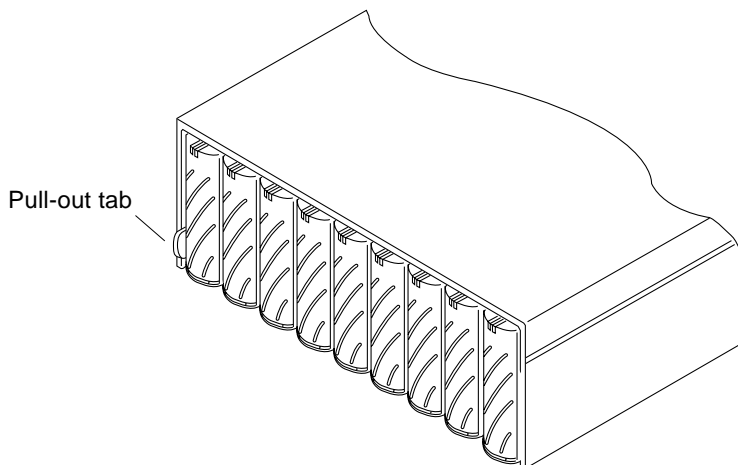

FIGURE 2-2 Serial Number and MAC Address on Pull-out Tab
- 5. Locate the pull-out tab at the left side of the disk tray next to the first disk drive (FIGURE 2-2).**
- **MAC address.** See FIGURE 2-2 in the previous section for the MAC address location. See Step 1 of the following procedure for the format of the MAC address.